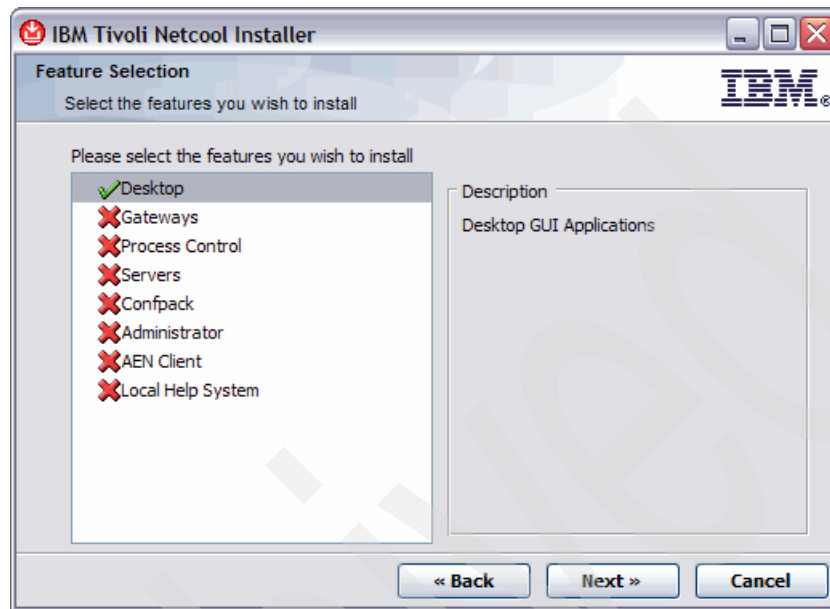

Figure 4-4 IBM Tivoli Netcool/OMNibus features selection
4. Select the necessary components. For a remote desktop, you only select the Desktop component, as shown in Figure 4-4. Click **Next**.